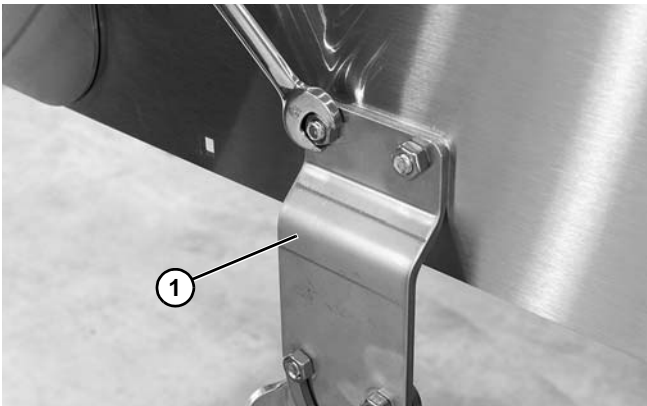

Figure 15
2. Attach the stands (Figure 15, item 1) to the frame. Tighten screws to 14-16 ft-lbs (19-22 Nm).